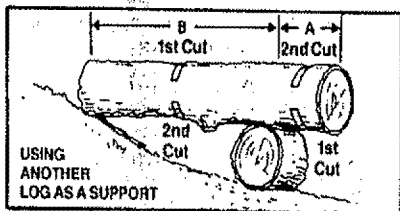

Figure 24
4. BUCKING — USING ANOTHER LOG AS A SUPPORT (Figure 24):